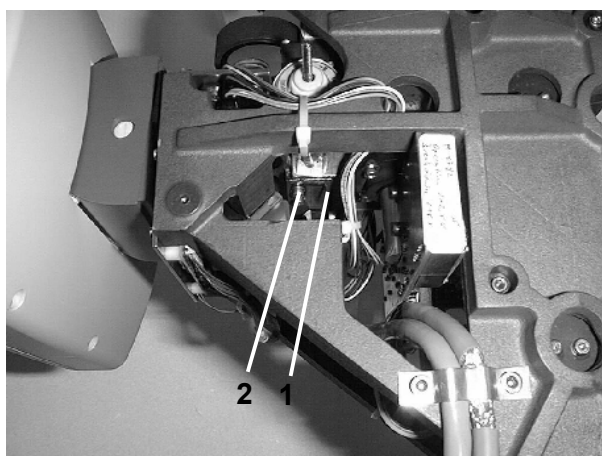

Fig. 30
- If the light barrier does not switch as required, the position of actuating flag ((1) Fig. 30) must be re-adjusted in the horizontal direction. To do this, loosen screws ((2) Fig. 30) and shift the flag.